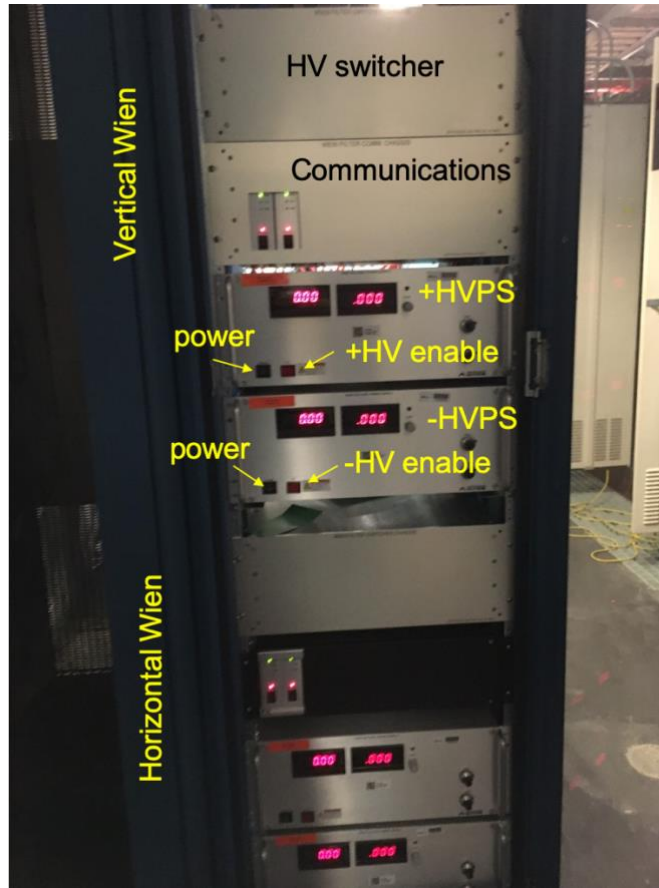
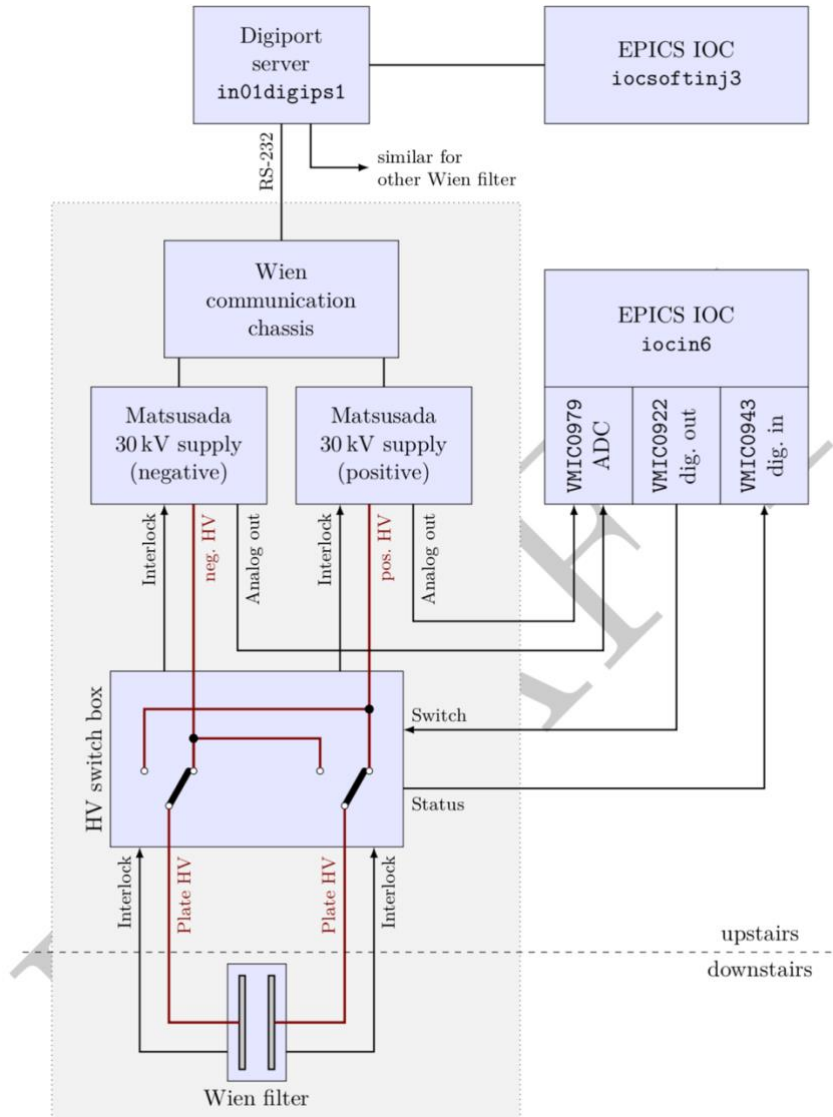

Figure 1: Photo of the rack housing the supplies, switch boxes, and control components.
Figure 2: Schematic layout of the Wien filter control circuitry. The components inside the gray box exist separately for each Wien filter.
Figure 1 shows the corresponding rack in the Injector Service Building. A schematic overview of the high-voltage wiring and controls is shown in Fig. 2.
- Current readback: reports the current read from the power supply in mA. The current limit is set on front of the power supply, range 0 – 1 mA dialing the grey knob (Figure 2). The knob has been turned all the way clockwise thus setting the limit to 1 mA. There is no remote control option to set the current limit. There is no expected current draw during normal Wien operations.
4. Proceed to the Wien HV systems rack front (Fig. 1). Starting with the Vertical Wien HV system (top stack):
15. Proceed to the HV controls rack (Fig. 1) and verify that now the HV enable/disable toggle switch is illuminated red for all of the four power supplies. The display in all four supplies should still be 0 V.
17. Proceed back to the front of the rack (Fig. 1). And ensure the LED displays are reporting  $\sim 0.5$  kV for the upper (Positive) HV power supply, and  $\sim -0.5$  kV for the lower (Negative) HV power supply, and for both the Vertical (top stack) and the Horizontal (bottom stack) HV power supplies. See Fig. 6.
1. Proceed to the Wien Filter HV rack located in the injector service building (shown in Fig. 1)
6. Starting with the Vertical Wien system (top), turn the communication chassis power switches (2) off. The TLK green LEDs will be off now.